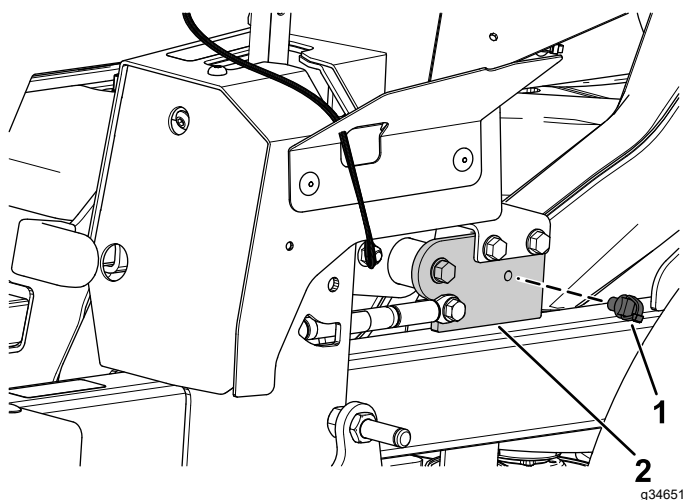

Figure 13
1. Install the front push-mount fastener into the parking-brake lever bracket (Figure 13).